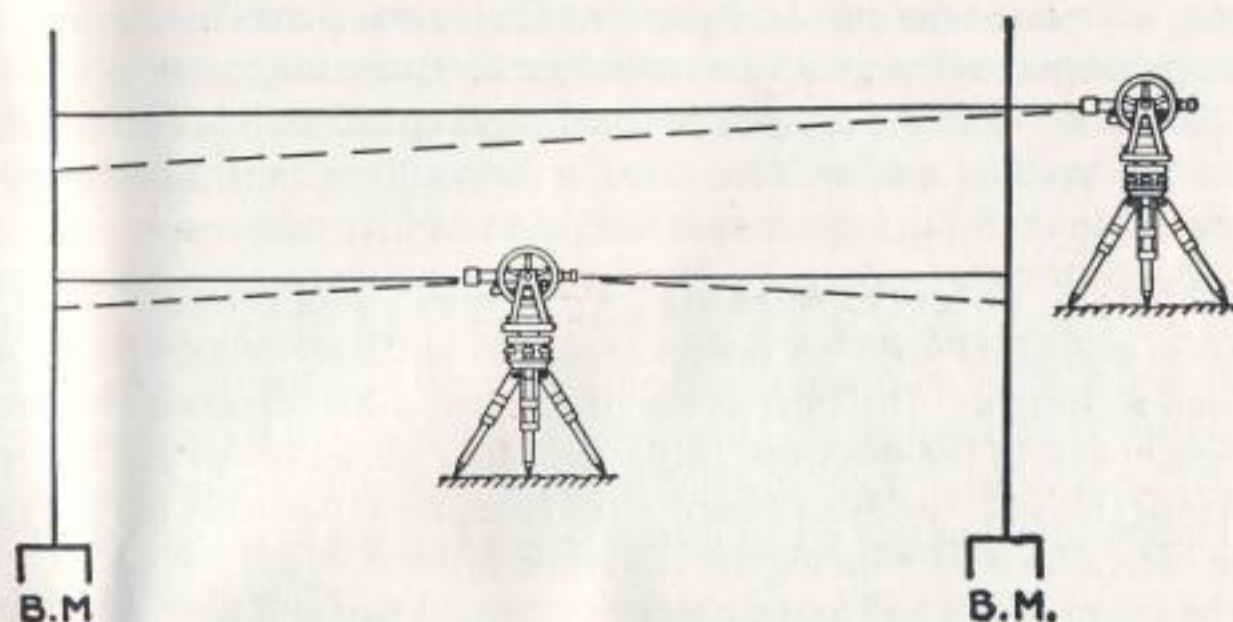

Fig. 10. Testing the Telescope Level
6. **Telescope Level** — The long level vial attached to the telescope should be adjusted so that the bubble is central when the line of sight is horizontal. This may be done by setting up the transit **midway** (by measurement) between two stakes or other points which may be used as bench marks. If it is possible to drive the two stakes so that their tops are at exactly the same elevation, as shown by readings of a rod held on top of the stake, this will make the calculation simpler; but if you cannot, any two points may be used. The difference of elevation of the two points is given correctly even if the adjustment is in error, because the instrument is equally distant from the two points. (See Fig. 10).
same elevation as shown by a rod reading, the points will actually have the same elevation, even though there is a large error in the adjustment of the instrument. Now set the level in line with the stakes and near to one of them. Next center the bubble and take rod readings on the two stakes. If the readings do not agree raise or lower the cross-hair ring until they do agree. This is done by moving the diaphragm until the reading on the distant rod agrees with near rod reading just found. This adjustment, however, will alter the near rod reading slightly, so the readings and the adjustment must be repeated, until finally they are made to agree. (See Fig. 10.)